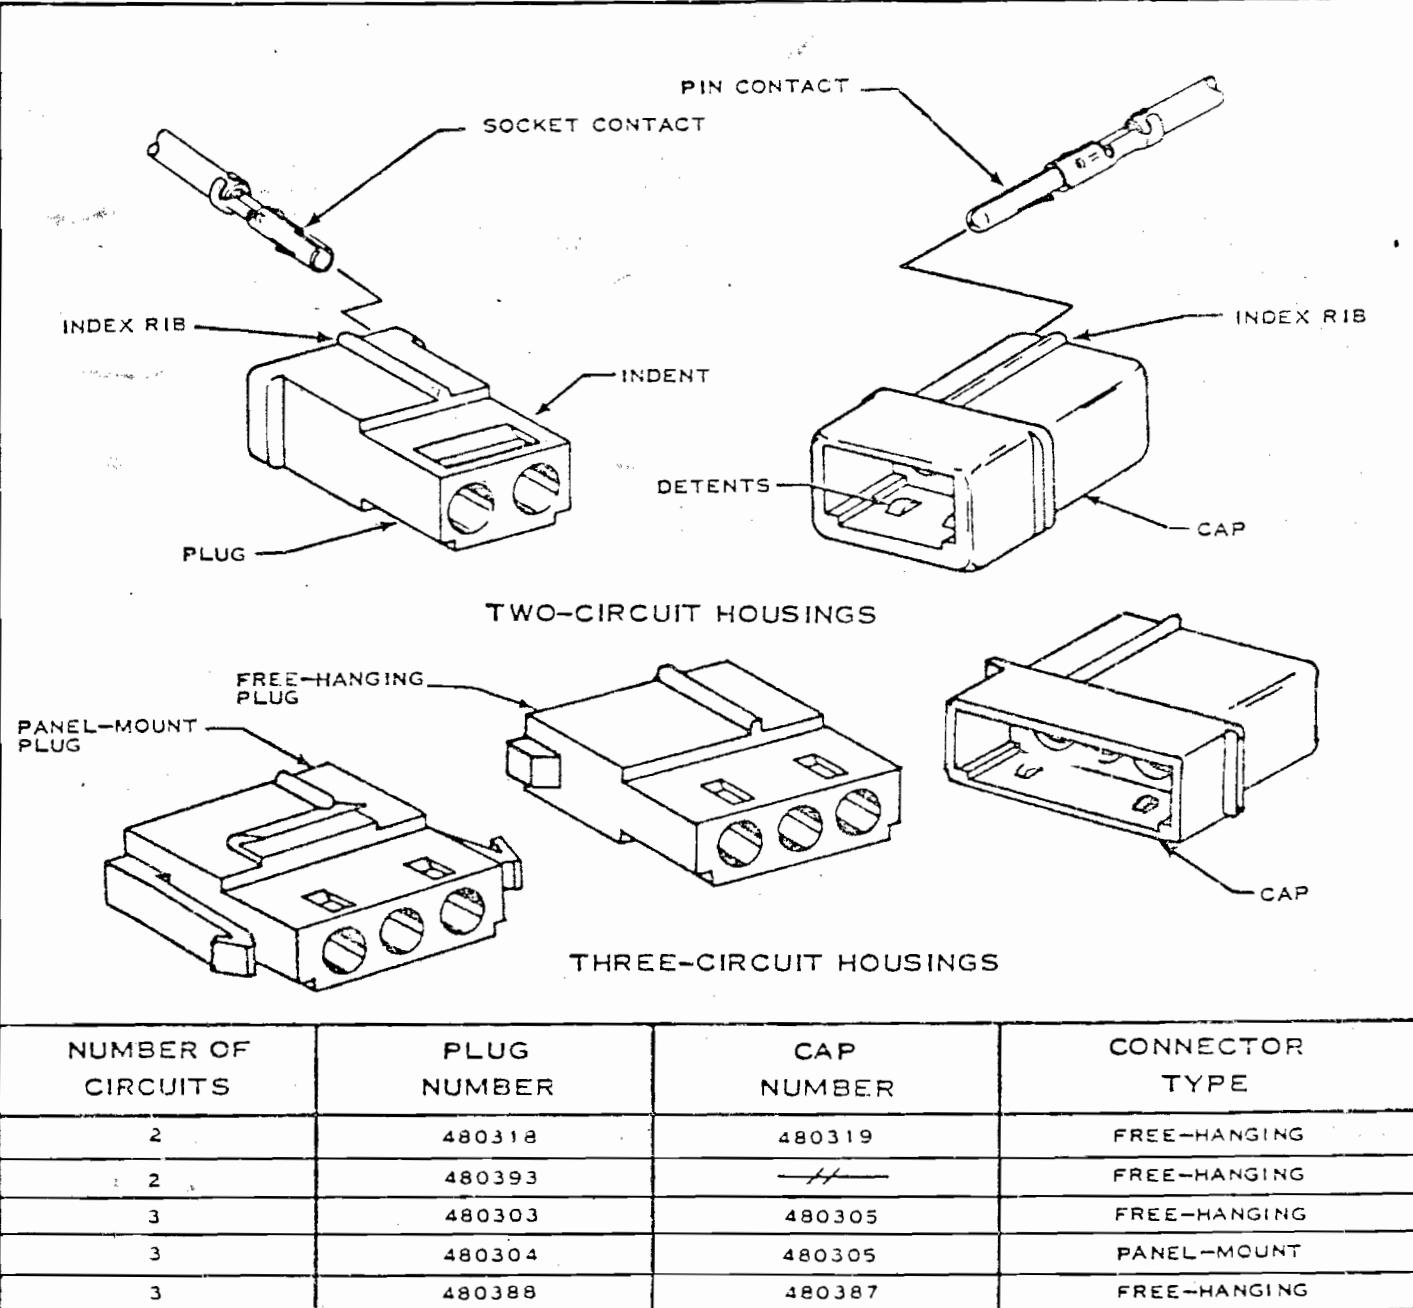

FIG. 1
1. Each MATE-N-LOK Connector consists of two Housings (a Plug and a Cap) and Pin and Socket Contacts. The Cap accepts Pin Contacts. The Plug accepts Socket Contacts. See Figure 1. Read these instructions carefully before assembling the Connector.
- Crimp Loose-Piece (LP) Contacts with the proper Hand Tool.